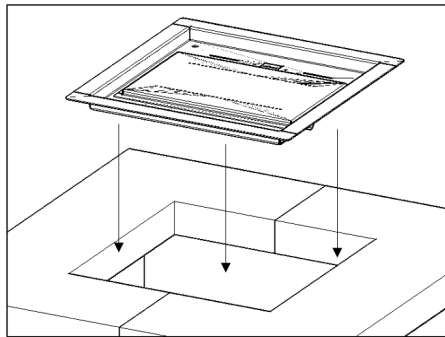

FIGURE 8
3. Drop the table burner into the cavity. Figure 8 & 9
5. Drop burner into the cavity. Figure 8 & 9